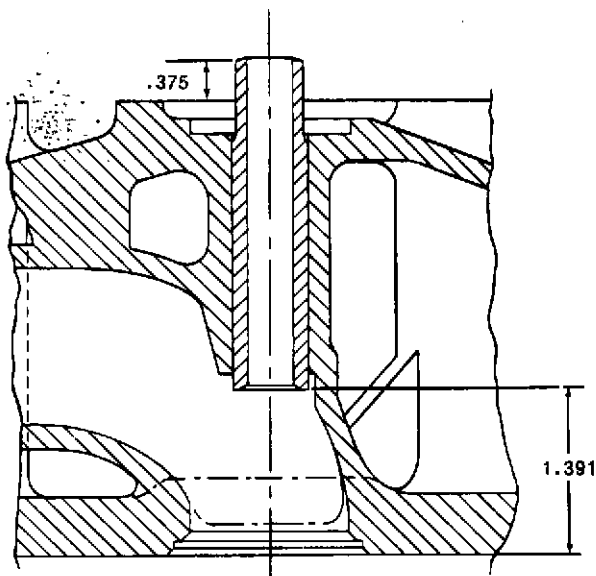

Figure 5-24. Valve Guide Installation
1. If the valve guides are excessively worn and require replacing, it must be done before any refinishing is done on the valve seats. This will ensure that the seat being finished is square with respect to the new guide. To drive out the guides, use a drift with a 5/8-inch diameter and a 3/8-inch diameter pilot. Drive in the new guides so that the dimension from the lower edge of the valve guide to the gasket face of the cylinder head is 1.391 inches. See figure 5-24. After the new guides are driven in, ream the inside diameter to correct any squeezing in or any distortion. Ream the exhaust valve guides to 0.3745 to 0.3750 inch. Ream the intake valve guide to 0.3745 to 0.3750 inch.